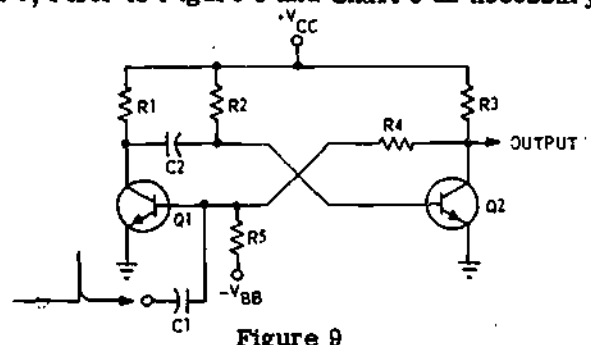

Figure 9
For questions 1 through 6, refer to Figure 9 and Chart 3 as necessary.
1. Figure 9 is the schematic diagram of a _____; before triggers are applied, Q _____ is saturated and Q _____ is cutoff.
2. Given Chart 3 as the waveshapes for the Figure 9 circuit, with waveshape "B" labeled as VCQ1, label the remaining waveshapes.
4. Output PRT of the Figure 9 circuit is controlled by the (input trigger PRT) (value of C2 and R2), and output pulse width is controlled by the (input trigger PRT) (value of C2 and R2).
6. If C1 (figure 9) became open, which of the following conditions would exist?